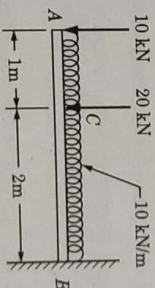

Fig. P. 25.7
- 25.7. Draw the shear force and bending moment diagram for a cantilever loaded by point loads and uniformly distributed load as shown in Fig. P. 25.7. [ $F_{\max} = 60 \text{ kN}$ ,  $M_{\max} = -115 \text{ kNm}$ ]